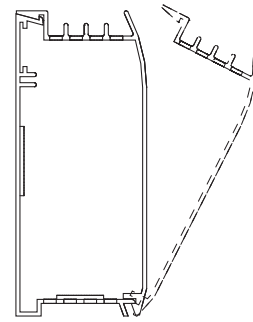

Fig. 5
17. Before energizing, make sure front cover is properly locked onto the back housing along the entire length of the heater, see Fig. 5. Do not operate heater without front cover installed.
10. Replace front cover by latching the bottom front edge of the front cover over the bottom front edge of the back and pushing the cover straight back to latch the top rear edge of the back with the top rear edge of the front cover. See Fig. 5.
10. Replace front covers following Step 10 under **Single Unit Installation**, (See Fig. 5.)
5. Replace front cover as shown in Fig. 5 making sure it is locked in position along length of heater. Restore power to heater and verify it is operating properly.